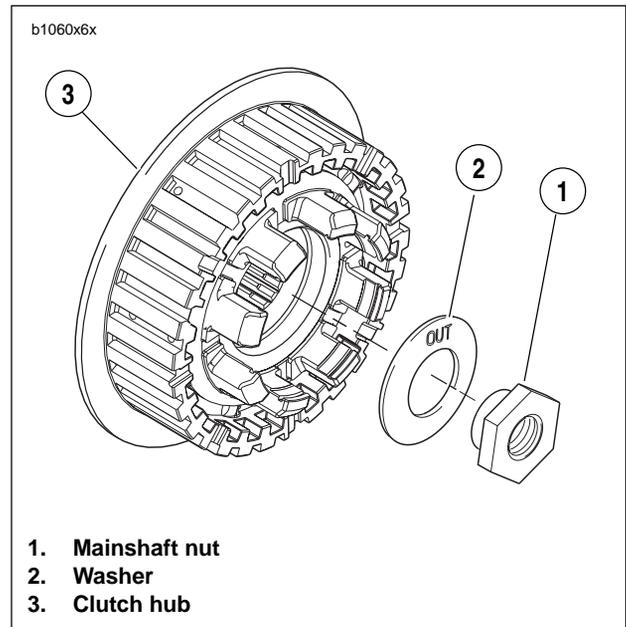
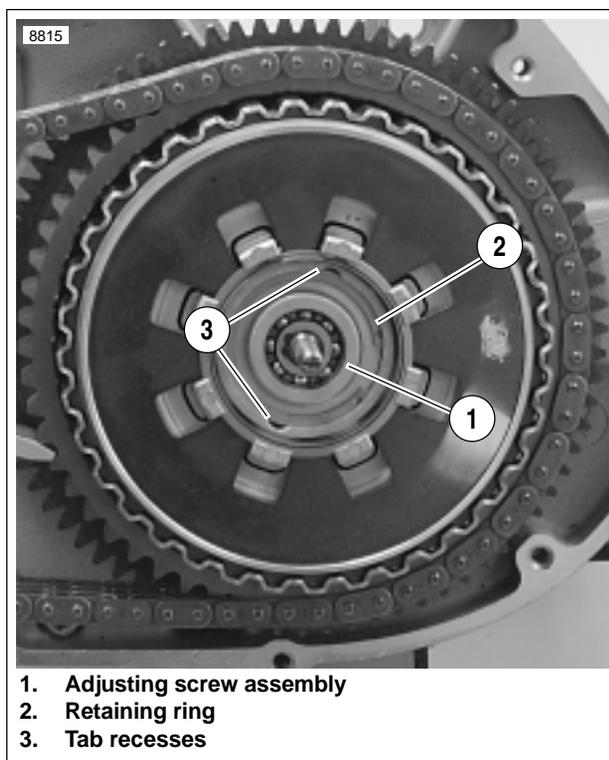

Figure 6-34. Mainshaft Nut and Washer
Figure 6-36. Clutch Adjusting Screw Assembly and Retaining Ring
See Figure 6-34. Washer must be installed with the word "out" facing the mainshaft nut or transmission may be damaged.
6. See Figure 6-34. Install mainshaft washer (2) and nut (1).
- b. Place washer (2) on mainshaft with the word “out” facing away from clutch hub.
- c. Install nut (**left-hand threads**) (1). Tighten to 70-80 ft-lbs (94.9-108.5 Nm).
- a. See Figure 6-36. Align two tabs on perimeter of release plate with corresponding recesses (3) in pressure plate.